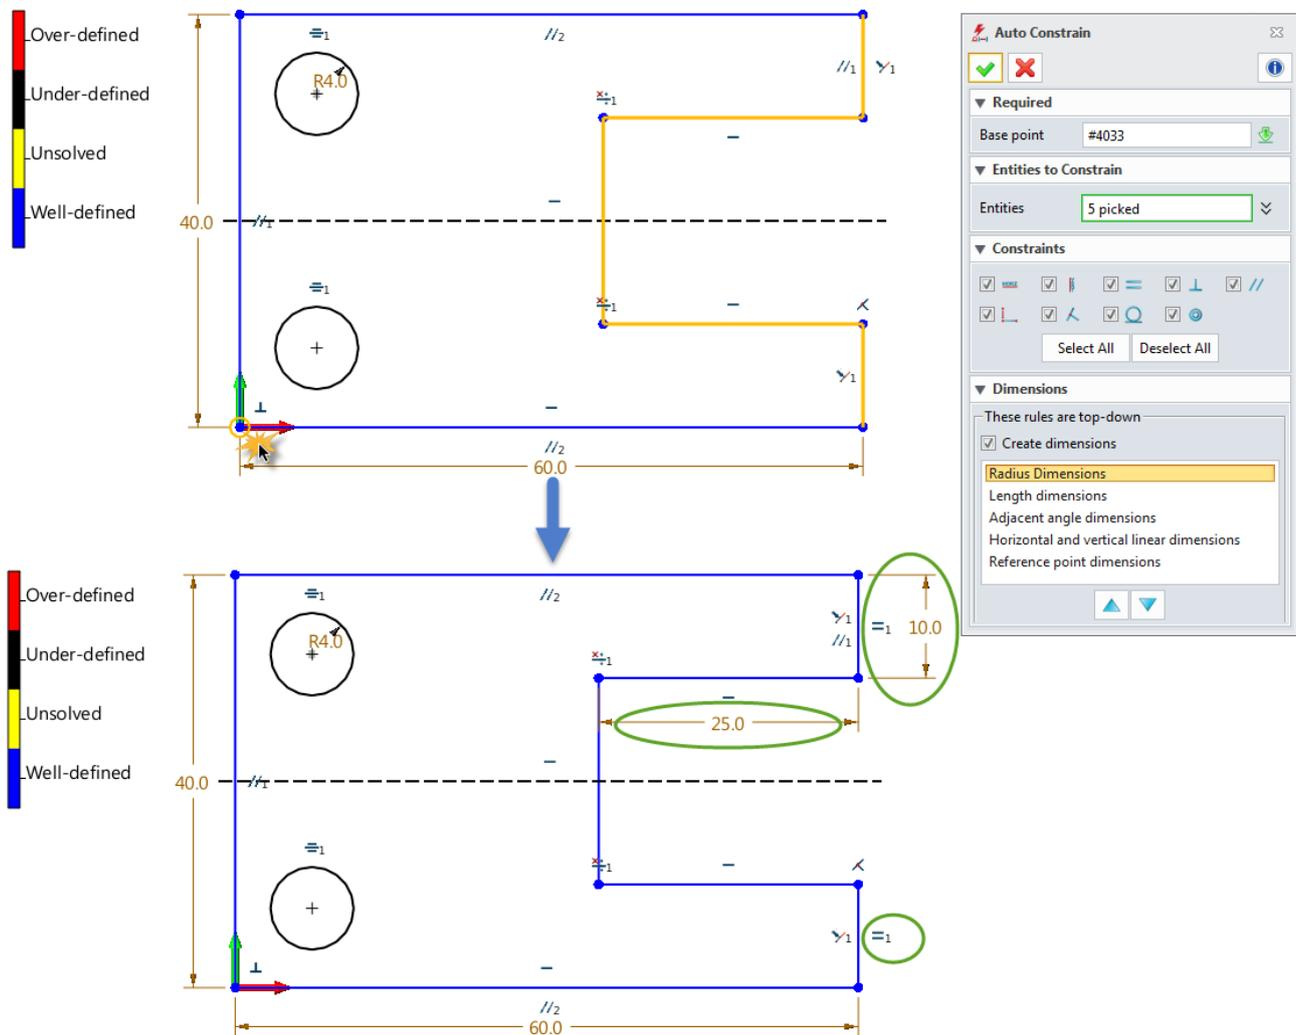

Figure 78 Auto Constraints
STEP 01 Select the base point. See the Figure 78, the base point is the original.